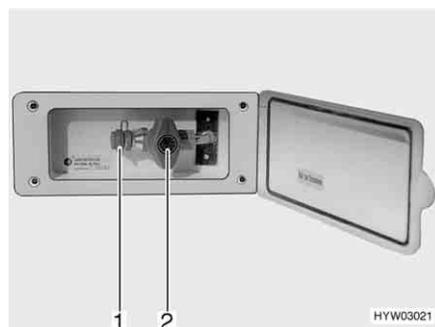

Fig. 99 External gas connection, gas isolator tap closed
The external gas connection (Fig. 99) is located at the rear or to the left or right of the vehicle depending on the model.
- Connect the external gas device to the connection point (Fig. 99,1).
- Open the gas isolator tap (Fig. 99,2).